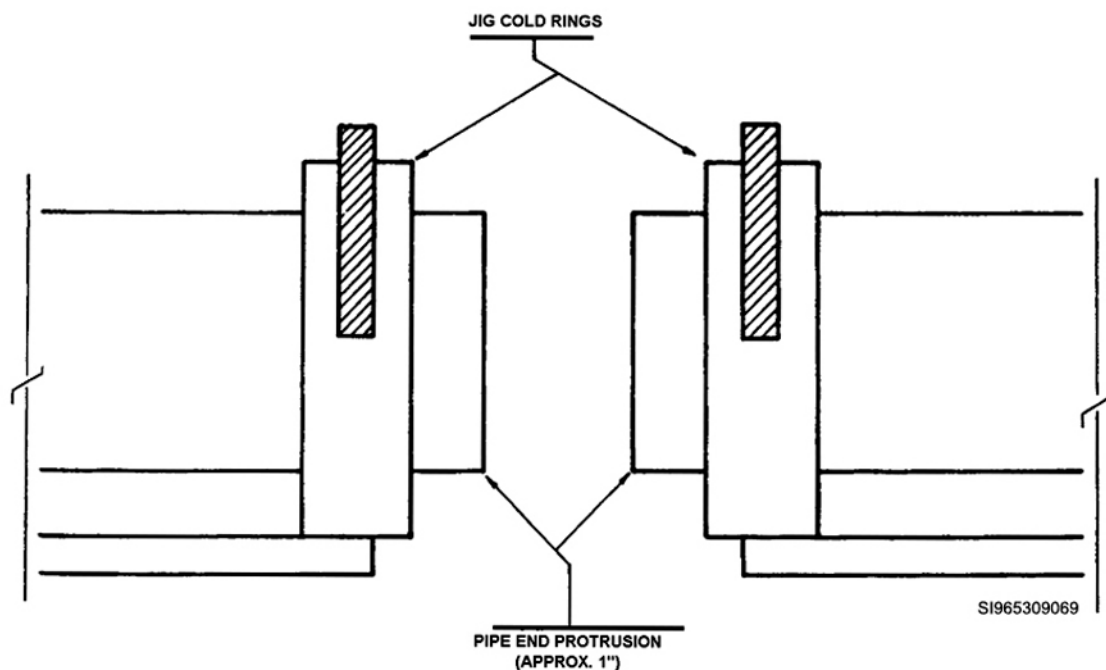

Figure 2-7. Pipe ends placed in joining area.
2. Place the pipe ends into the jig, allowing only a slight protrusion into the joining area in the center of the machine (approximately $\frac{3}{4}$ "). This can be seen in figure 2-7.